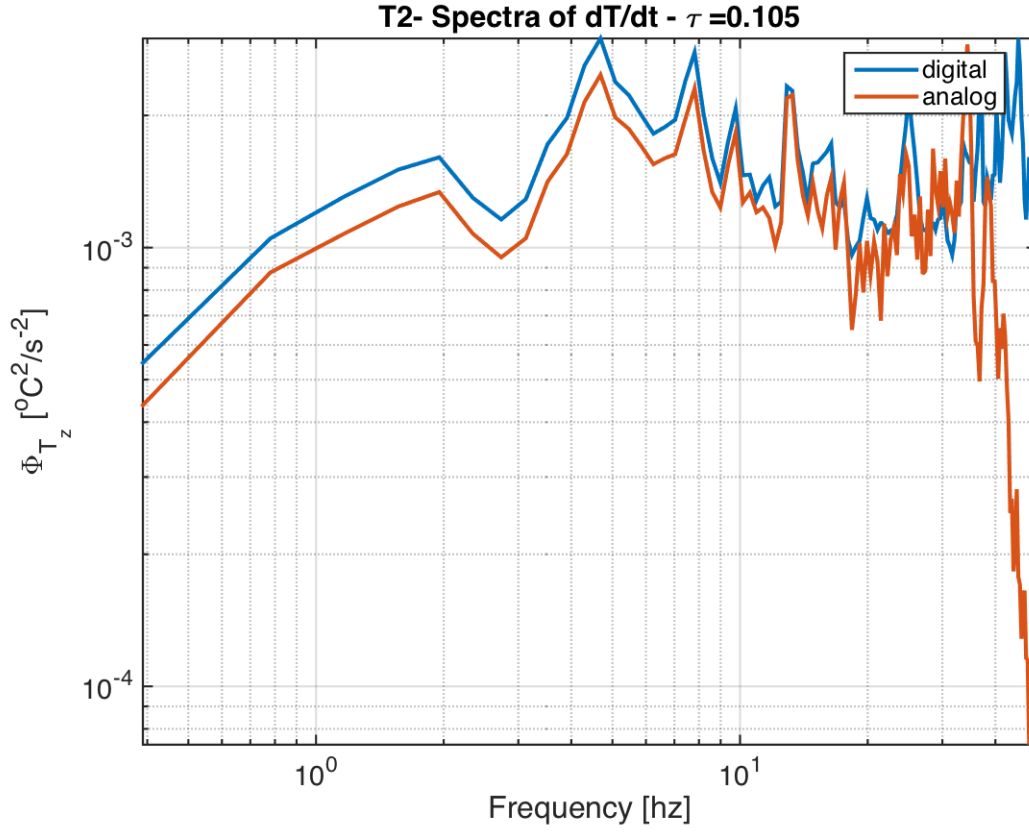

Figure 2: dT/dt spectra for analog (TP) and digital derivatives. Spectra levels should match; if not time-constant may be wrong.
- `cast_001_w_dTdtSpectraCheck` (Figure 2). This compares the analog dT/dt (T1P) to the differentiated T signal. The spectral amplitudes should agree up to a certain frequency where the digital dT/dt becomes dominated by noise. If the spectra below the noise level don't match, the time-constant used in calibration might need to be modified.